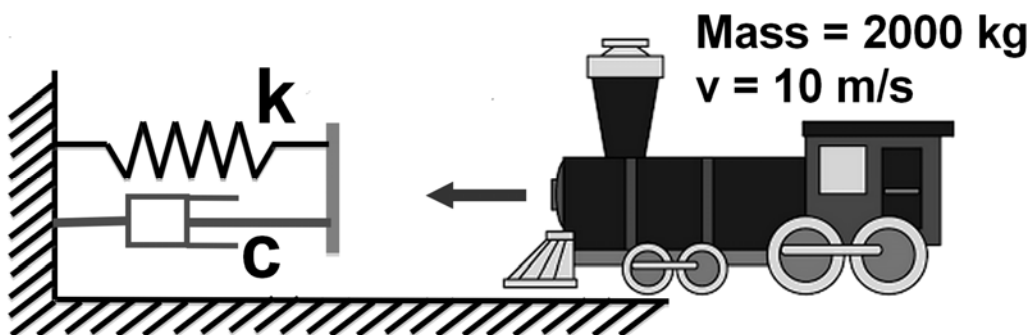

Figure Q2(a)
2. (a). A locomotive with mass of **2,000 kg** traveling at a velocity  $v = 10$  m/s is stopped at the end of the tracks by a spring-damper system, as shown in **Figure Q2(a)**. If the stiffness of the spring is  $k = 80$  N/mm and the damping constant is  $c = 20$  N-s/mm. Determine the system's: